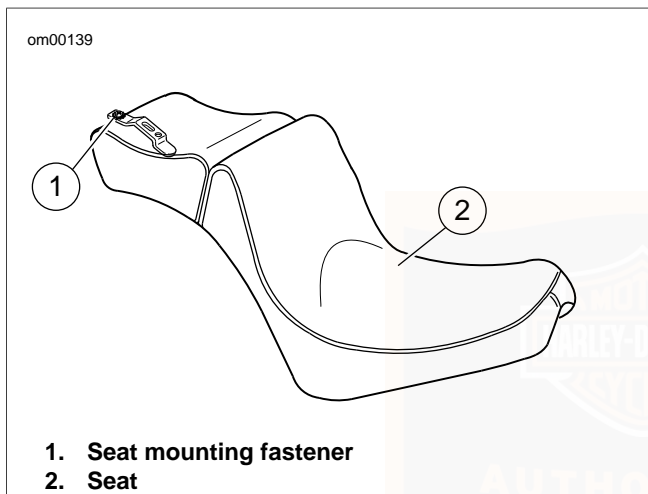

Figure 90. Seat: FX Softail Models
1. See Figure 90. Remove seat mounting screw from top of rear fender.